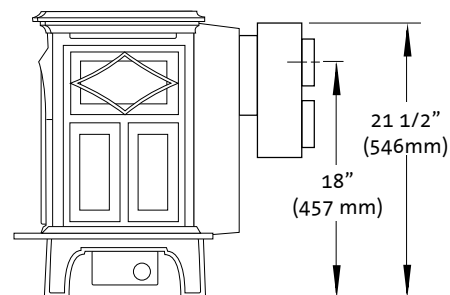

Figure 9. Co-Linear Adaptor dimensions with Plinth legs.
- **JOINT SEALING REQUIREMENT:** APPLY A 1/8" BEAD OF HIGH-TEMPERATURE (750°F) SEALANT TO THE MALE SECTION OF THE INNER VENT PIPE. SEE FIG. 9. THE CEMENT SHOULD FORM A SEAL BETWEEN THE INNER AND OUTER PIPES.